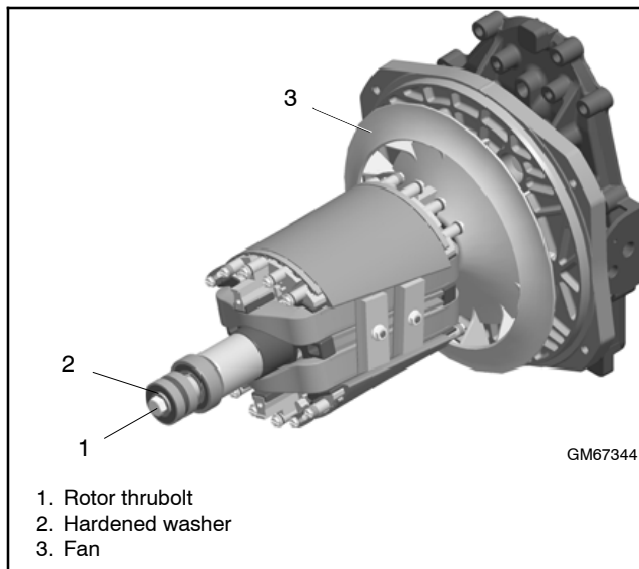

Figure 6-19 Rotor Assembly
2. Install the rotor. See Figure 6-19.